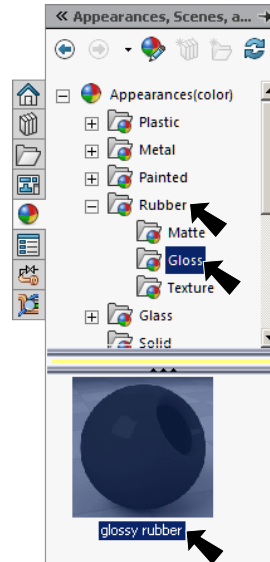

Fig. 6
Step 2. In the Appearances Task pane, expand **Rubber**, click **Gloss** and in the lower pane select **glossy rubber**, Fig. 6.